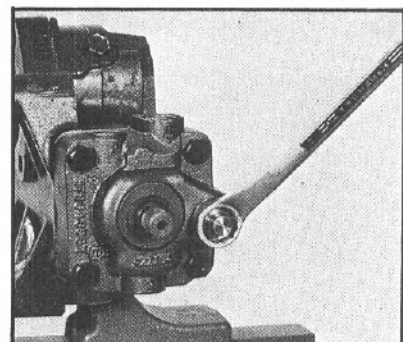

Figure 51
17. Remove the relief valve (9A), if equipped, from the valve housing (9) (FIG. 51).